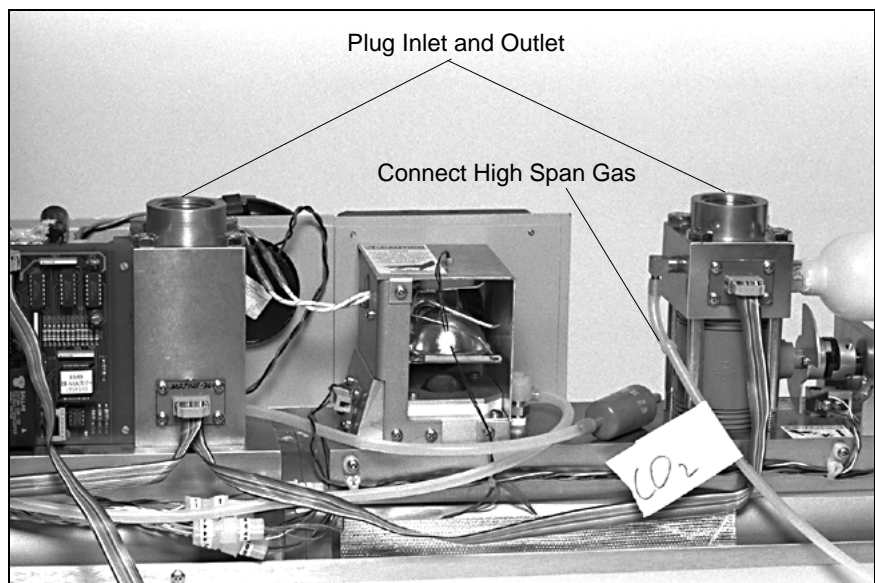

Figure 5-34
8. Plug inlet & outlet (manual)	Remove the top cover of the Nephelometer using the procedure in Chapter 8 . Plug the aerosol inlet and outlet of the Nephelometer (Figure 5-34).
9. Feed High Span Gas into line (manual)	Remove the tubing from the inlet of the blue DQ filter and connect the tubing from the high span gas to either the inlet tubing or to the inlet block (Figure 5-34). Turn on the gas until the flow rate is approximately 5 L/min. You should feel gas exiting through the DQ filter in the opposite direction of the arrow on the filter. Proceed to step 10.